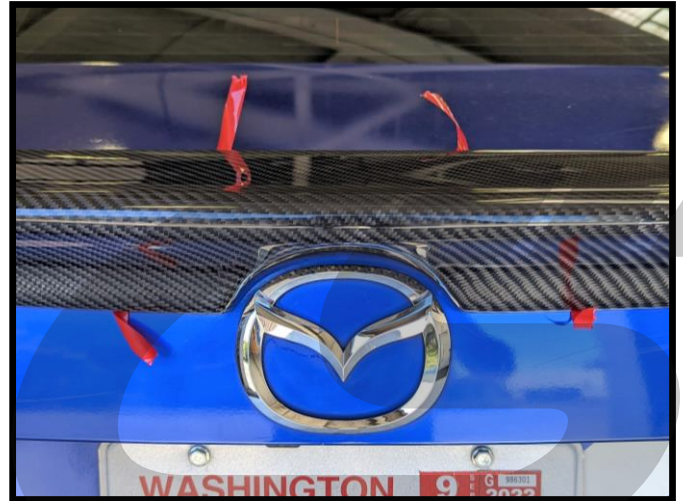

Figure 3a
- Place the CS lip on the trunk as shown in **Figure 3a** making sure to center the emblem in the cutout.